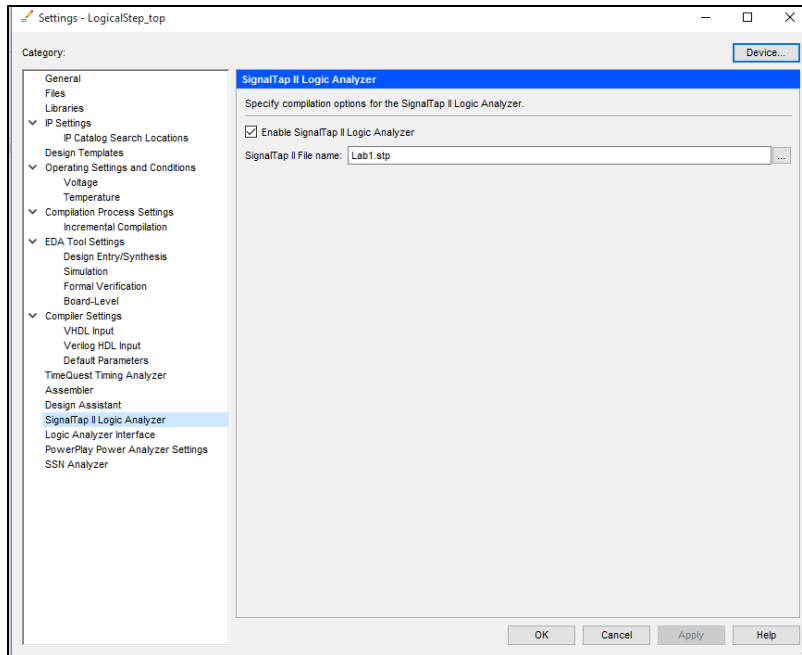

Figure 56: Enabling the SignalTap Logic Analyzer for the FPGA
Step2: To enable the operation of the Lab1.stp you will then browse in the Category Pane of the same Settings Dialog window to the “SignalTap II Logic Analyzer” option and then select it. A new Dialog window becomes visible. Please refer to Figure 56. Click on the box to Enable SignalTap II Logic Analyzer and the Lab1.stp file should be seen in the SignalTap II File Name field. Click OK.